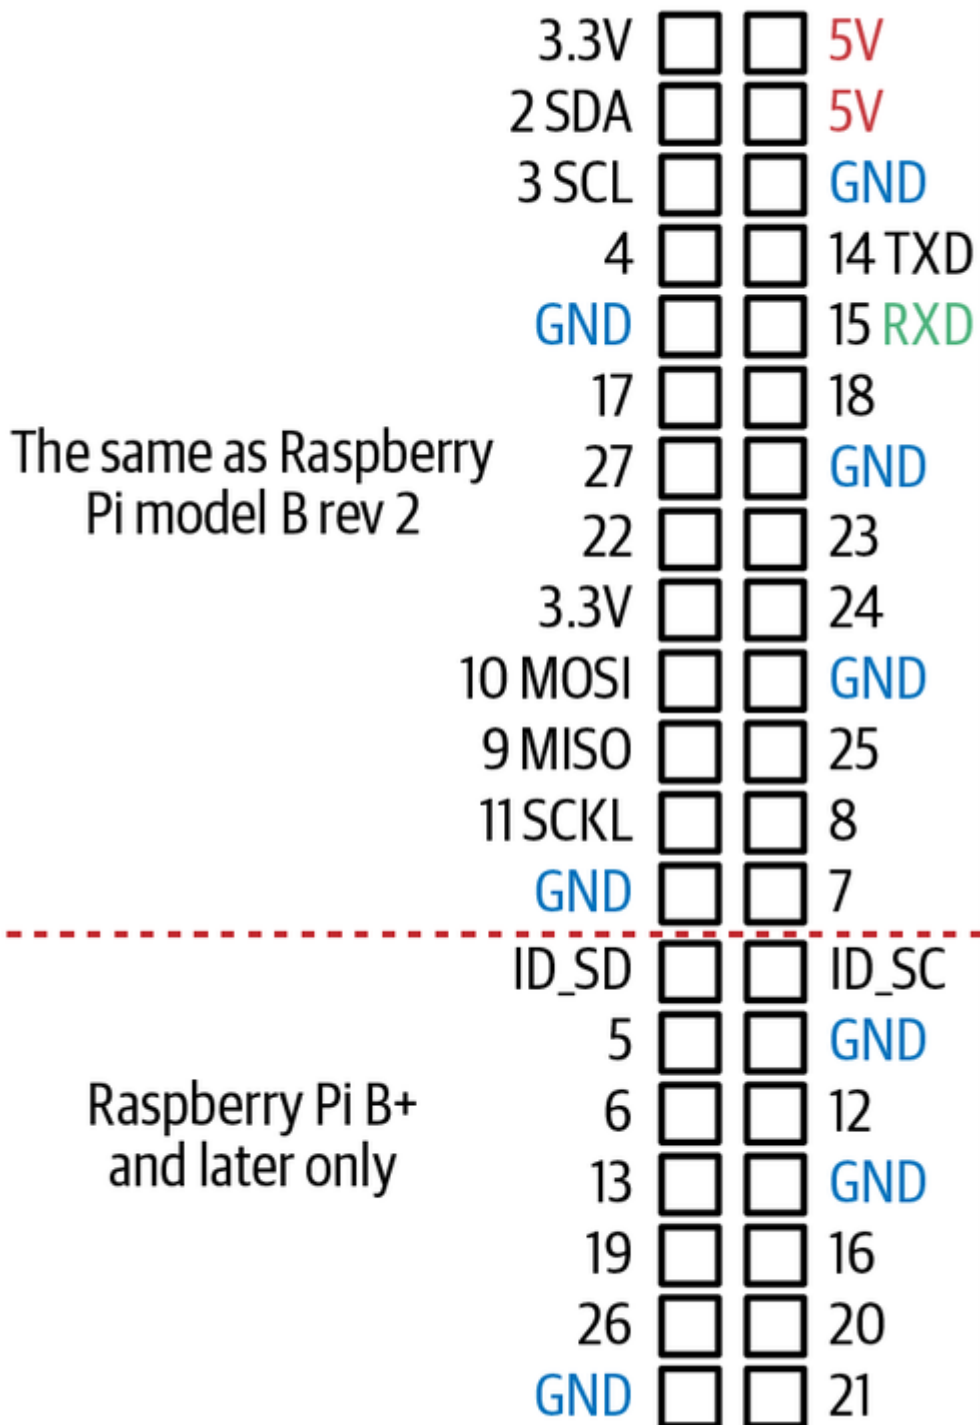

Figure 10-1. The GPIO pinout (40-pin models)
**Figure 10-1** shows the current 40-pin layout, which is the same for all 40-pin GPIO Raspberry Pi models right up to the Raspberry Pi 4 and 400.